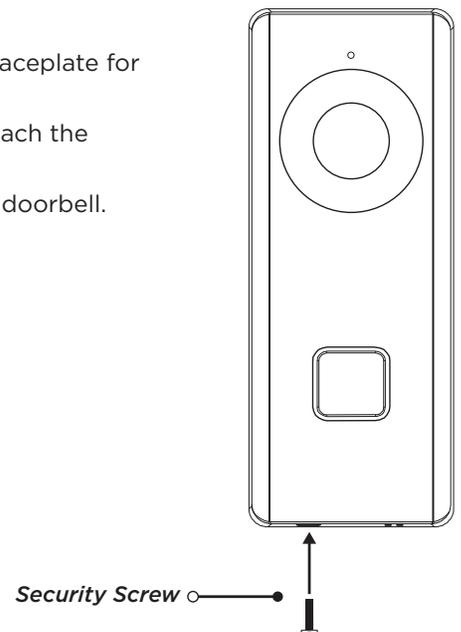

Figure 6: Attaching the Faceplate
2. Use the included short security screw to fix the faceplate to the doorbell. See Figure 6.